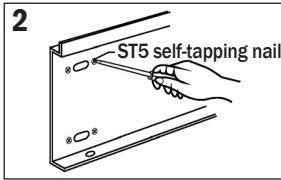

Figure 2
2. When installing on the soft wall such as wood board, use ST5 self-tapping nail to fix the installation board on the wall, as shown in Figure 2.